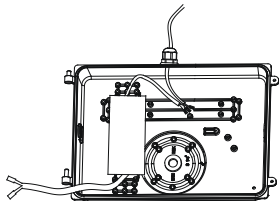

Figure 4
- After installing the bottom plate, pull the outside wiring into the fixture by the waterproof connector, and tighten the screws on the connector. Make wiring connections per "Electrical Connections" section and make sure the good wire protection. (Figure 4)